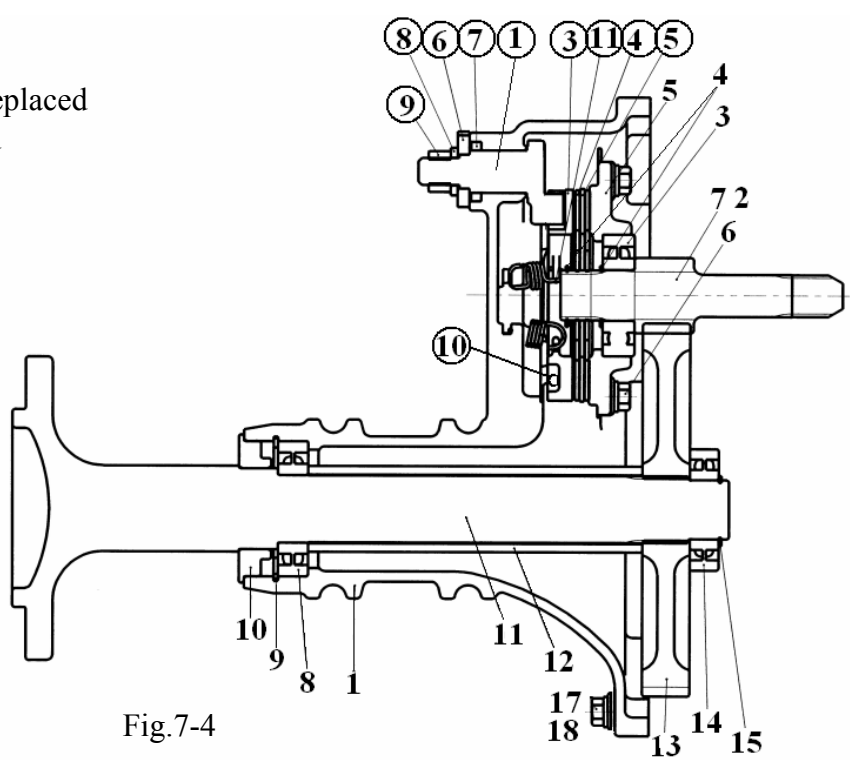

Fig.7-4
- 4) Remove the snap ring of wheel pinion(7, 2) (Fig.7-4) And individually separate the friction plates④, brake cover(5), and separator plates⑤ from each other.